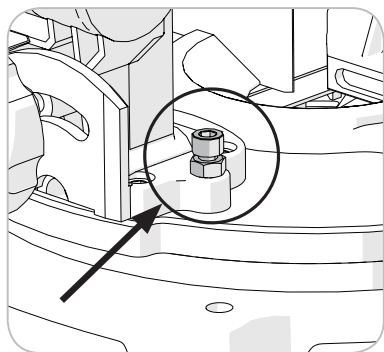

Fig. 11
- Use a Hex Key to adjust the Adjustment Screw in or out as required. **(Fig. 11)**